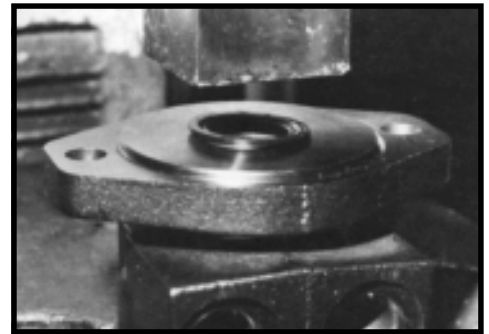

Figure 40
The Small Frame Series MG and MF Torqmotor™ dirt and water seal (20) must be pressed in until its' flange is flush against the housing. SEE FIGURE 40.